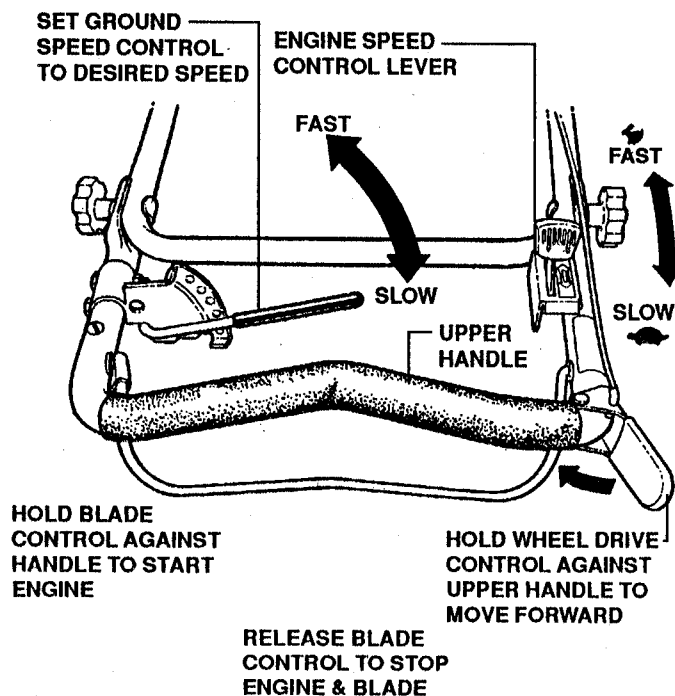

FIGURE 2.1
Stop engine and blade by releasing the blade control. See Figure 2.1.
- Move engine speed control lever to "CHOKE" (☐) position. Refer to Figure 2.1.
- Move the ground speed control lever to the desired position. Refer to Figure 2.1.